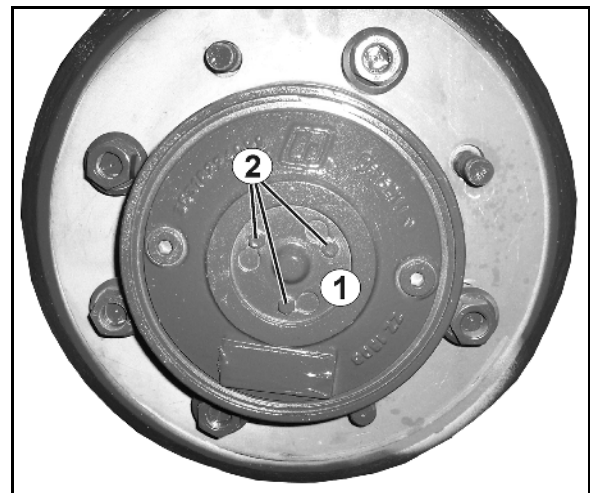

Fig. 132
If the machine has to be towed away, the hat-shaped cover (Fig. 132/1) has to be turned.
1. Undo the bolts (Fig. 132/2).